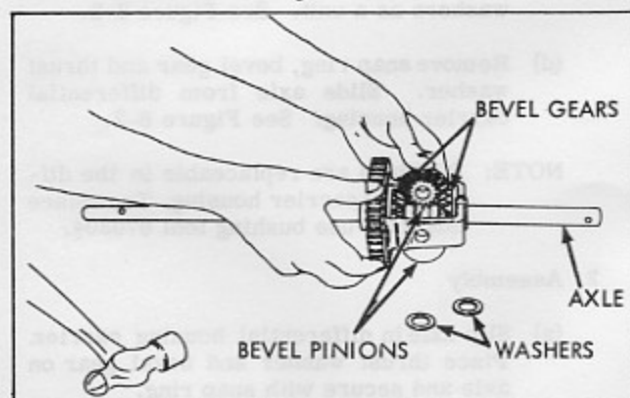

Figure 8-6
- (d) Install bevel pinions **SIMULTANEOUSLY FROM OPPOSITE SIDES** by rotating pinions in opposite directions while sliding into position in gear assembly. See Figure 8-6. Check alignment by inserting fingers into drive pin holes. If not aligned, drive pin cannot be inserted. Remove and replace bevel pinions as only one tooth out of position will cause misalignment.